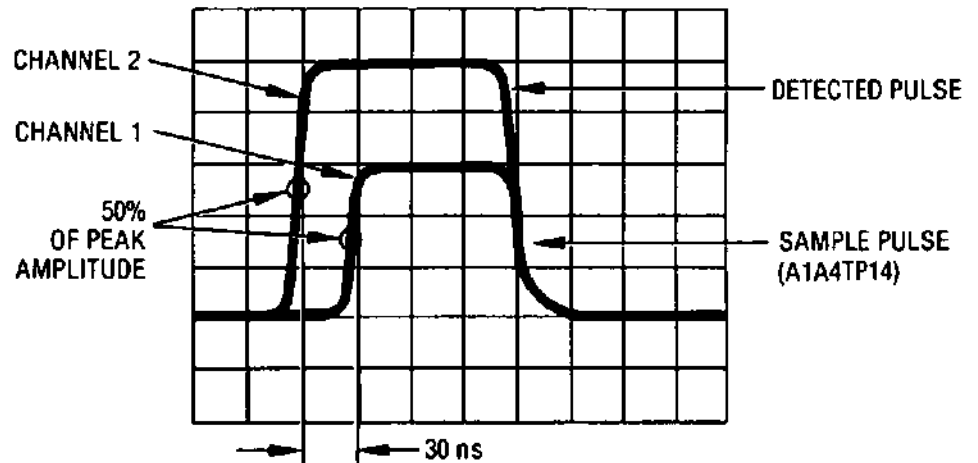

Figure 5-36. ALC Sample Pulse Waveform
*Try to adjust sample pulse as wide as possible while not sacrificing accuracy in order to do so. See Figure 5-36.*